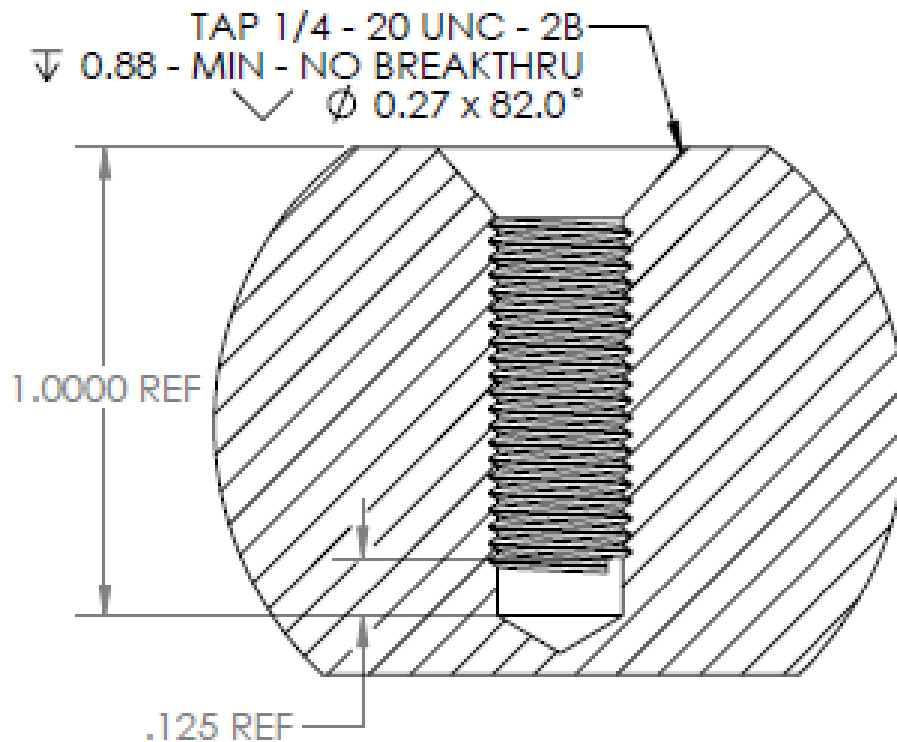

Figure 11: How much clearance to leave and the most cost effective way to specify a threaded hole dimensions.
- Figure 11 shows an example of a hole where the minimum distance from the shoulder of the drill to the first full thread is called out. This is a 1/4"-20 UNC threaded hole, which would require a minimum of .125" (.05" x 2.5 threads). Any greater than that will not save money and any tighter than that will take more adjusting and cost more.
- Also in Figure 11, the note specifying the tapped hole calls out the most cost effective way to notate this thread on a drawing. The depth is called out as .88 min rather than .875. We also see that there is no pre-drill size specified. Cut and roll taps use different sized predrilled holes so the predrill size should not be specified unless there is a very specific reason for doing so. The countersink diameter specification in this example is also just two decimal places which is much less expensive than using three decimal places. To give an example of how costs can be affected by these tiny details, if this tapped hole callout specified a predrill size, a .875" depth, a \varnothing .270" countersink and had less than .125" clearance to the drill shoulder, this hole could easily cost 3X - 5X what it would as represented in the tapped hole callout in Figure 11.